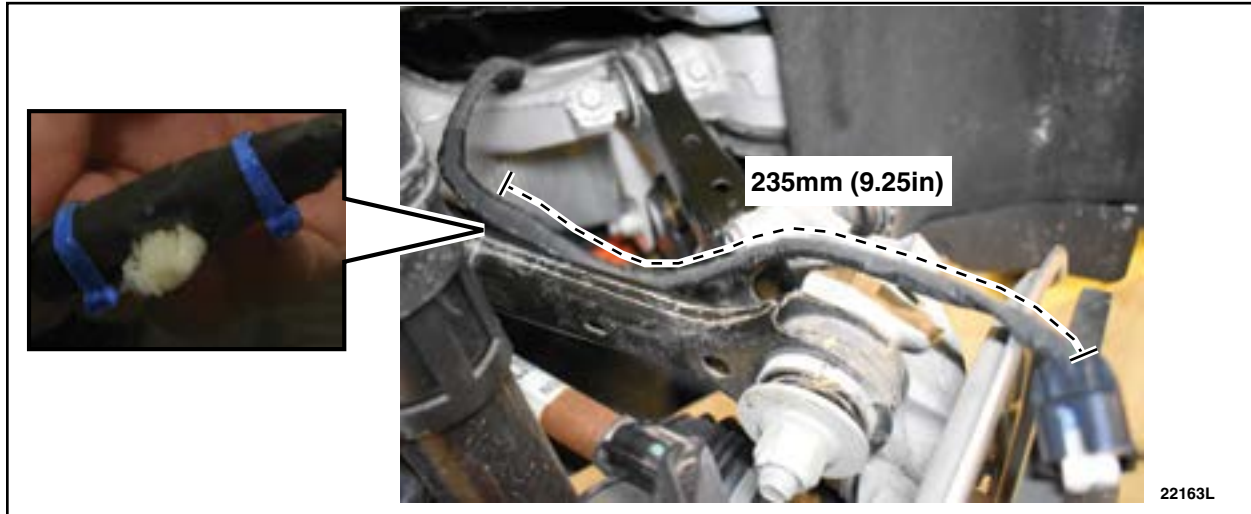

FIGURE 11
14. Using coroplast tape, tape the harness. Measure 235mm (9.25in) from the back of the connector and install the trailing arm clip, being sure to use the coroplast tape to secure the trailing arm clip. Secure the trailing arm clip with 2 tie straps. See Figure 11.